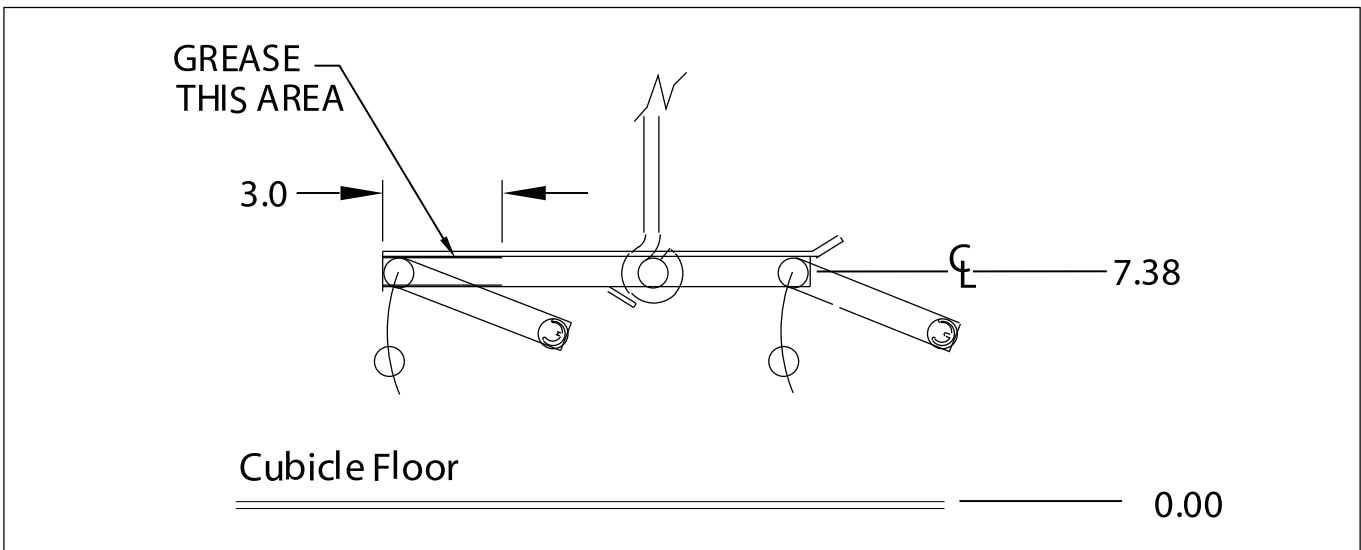

Figure 7. Cubicle Pantograph Setup
5. Verify and adjust cubicle MOC components as needed to match pantograph reference dimensions shown in **Figure 7**.
Reference **Figure 7** for the setup of the cubicle pantograph. This figure matches the original equipment manufacturer's setup.